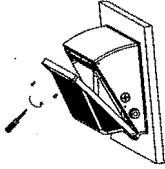

Fig. 11
7. Use a cross screwdriver to remove the two screws from the front-cover, and save them for future use. (Fig. 11)